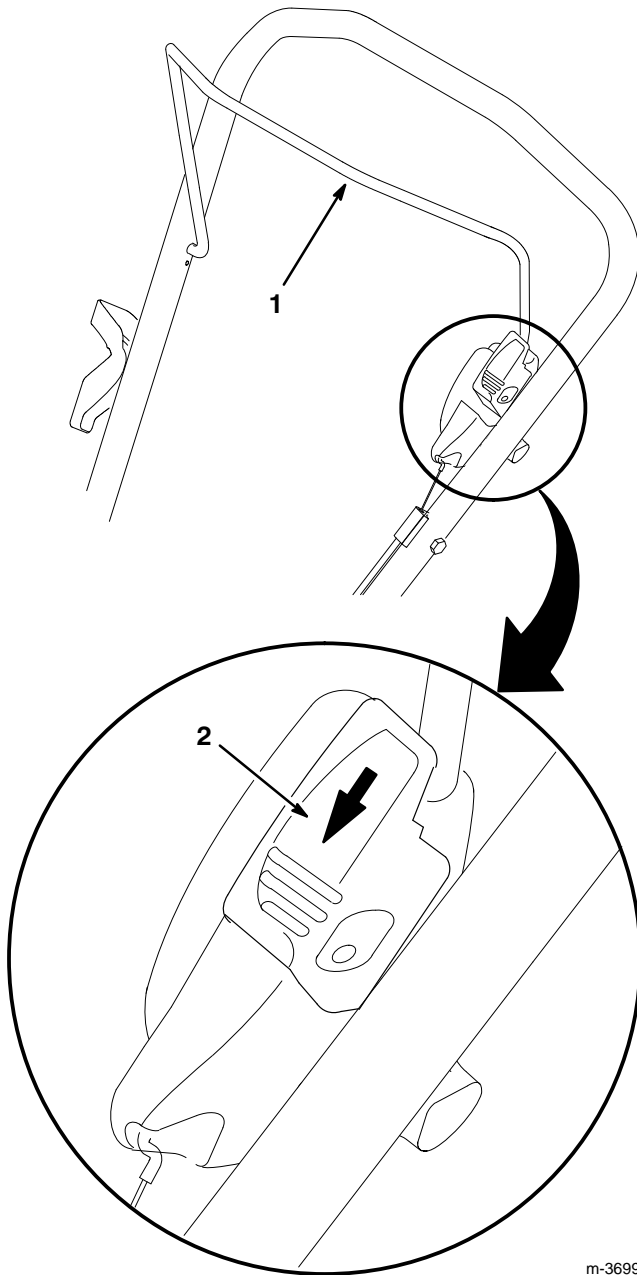

Figure 15
3. Pull control bar toward handle while pushing down slide on control (Fig. 15).